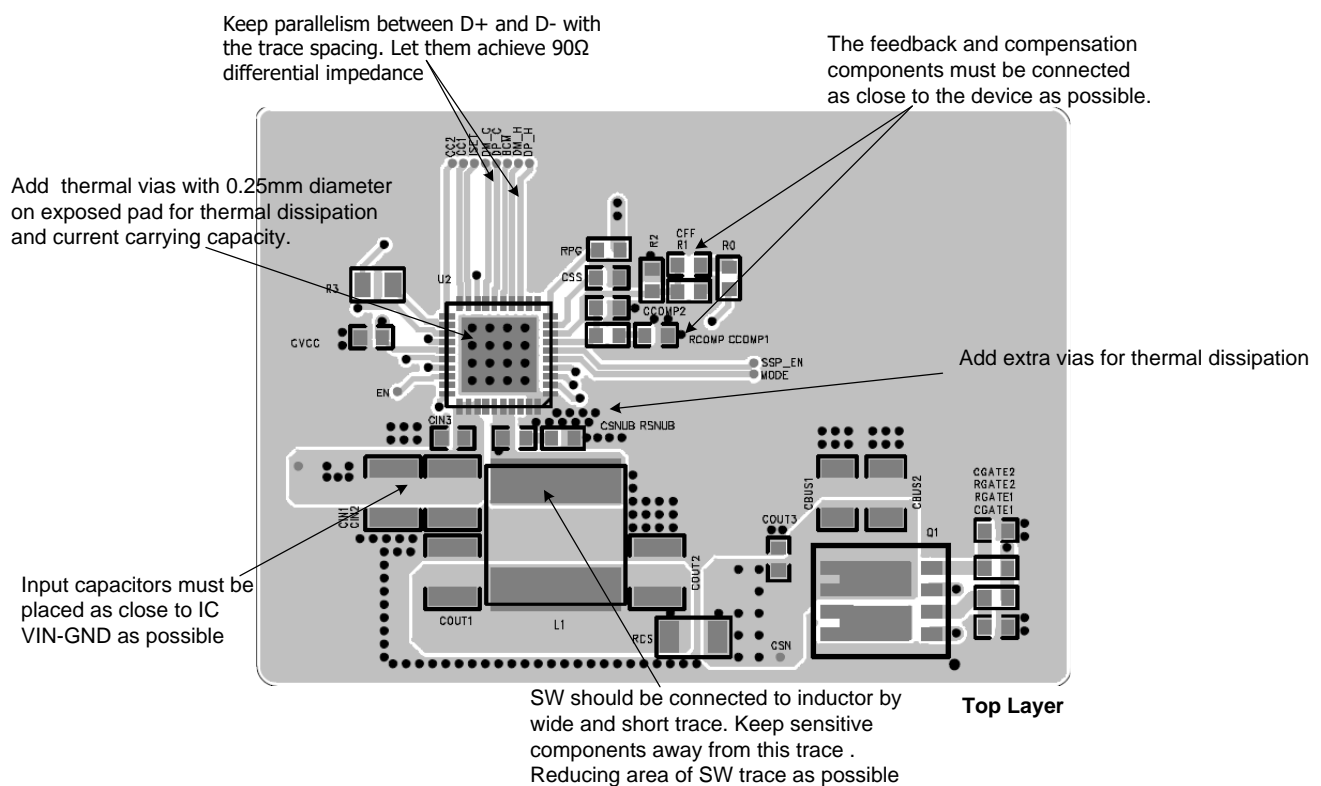

Figure 28. Layout Guide (Top Layer)
- Figure 28 to Figure 31 are the layout example.